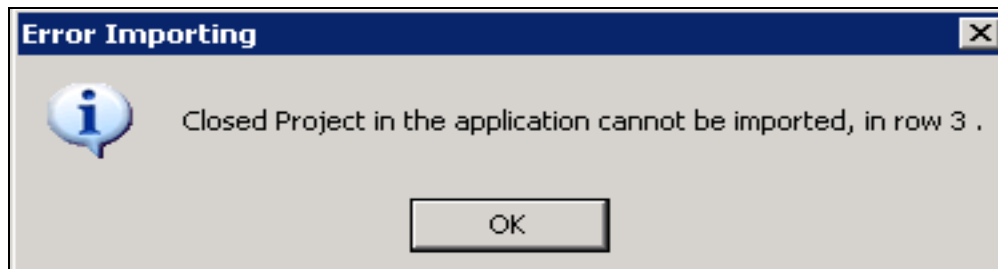

Figure 11-69: Closed Project in the application cannot be imported message
14. There are also additional validations for projects that have previously been submitted as closed. For example, if you try to import a new report for a project that was closed in the previous quarter, the system will return the Error Importing message shown below (Figure 11-69). To import or enter an updated report for a project submitted as closed it will be necessary to change the status of the submitted closed report to something other than closed which along with Final Report = Yes, are the only changes that can be made to a submitted report.